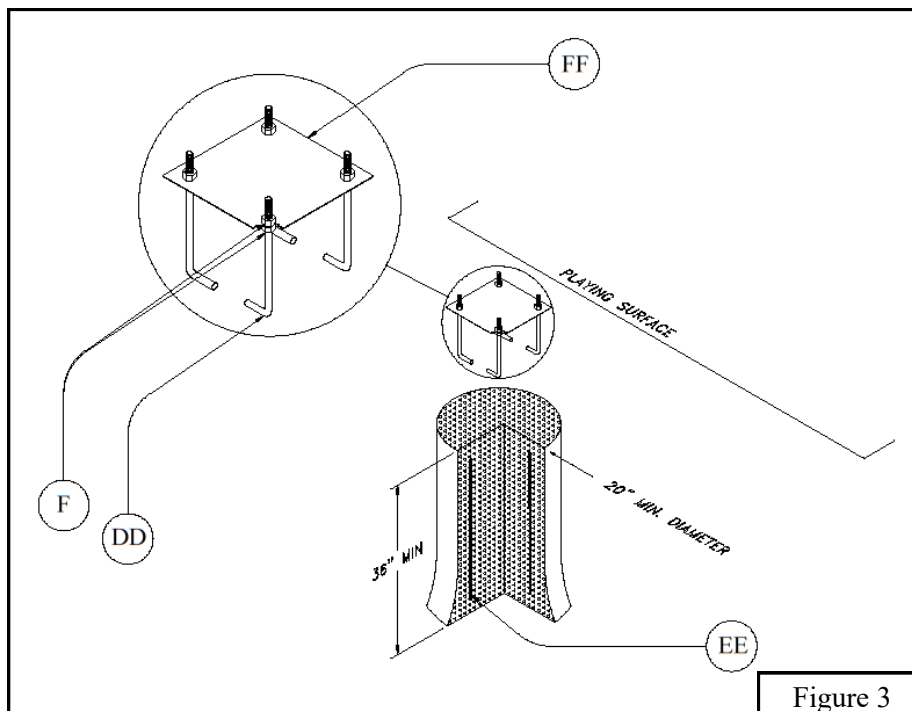

Figure 3
- 2b. Dig a hole a minimum of 20" in diameter and 36" deep. Bell out the bottom 12" of the hole to a diameter that is at least 4" larger than the diameter of the hole at the top. Digging the hole too big is better than digging it too small. See Figure 3.
- 3b. Prepare the "J" Bolt assembly by first threading a 5/8" Hex Nut (F) onto each "J" Bolt (DD) so that approximately 2-1/2" of thread is protruding above the nut. Place the threaded end of each "J" Bolt (DD) through the four holes in the Template (FF). Thread a second 5/8" Hex Nut (F) onto each "J" Bolt (DD) on the top side of the Template (FF). Tighten the nuts on both sides of the Template (FF), making sure that the same length of "J" Bolt (DD) (2" minimum) is protruding above the Template (FF) in all four corners and that the "J" Bolt (DD) "legs" are pointing toward the center of the Template (FF). See Figure 3.
- 5b. A 20" diameter by 36" deep hole, with additional soil removed from the bottom 1/3, will require approximately 7 cubic feet of Premix Concrete (Y). Allow for more if the hole is deeper or wider. Make sure you have enough concrete on-site before pouring, because allowing a portion to dry before the hole is completely filled will affect the strength of the footing.
- ◆ Damaging threads on J-Bolts making it impossible to install 5/8" Hex Nuts (F).